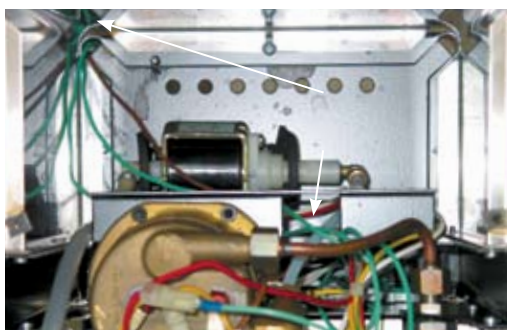

Fig. 6 Wire path out of Silvia.
7b. Run the cycle time (TC) and control wires (the ones attached to the + and - terminals of the SSR) out of the boiler compartment, along the bottom of the water reservoir compartment, and out the opening in the bottom corner of the water reservoir compartment (see Fig. 6).